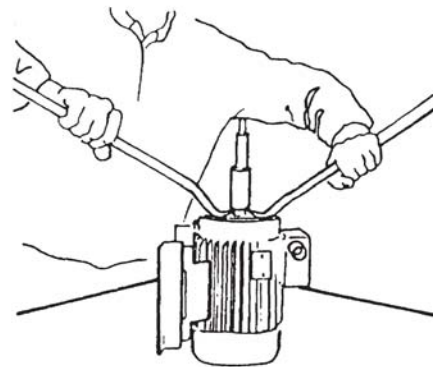

Fig.6
9) Disassemble the intermediate adaptor (pos. 4) by unscrewing (clockwise thread) the bolts (pos. 36).
10) Remove the rotating bushing (pos. 31) from the shaft after having eliminated with a pair of pincers the tongue (pos. 25).
11) To extract the shaft from the VMA pumps (pos. 6) please use two levers after having loosened the fixing screws (pos. 3), fig. 6.